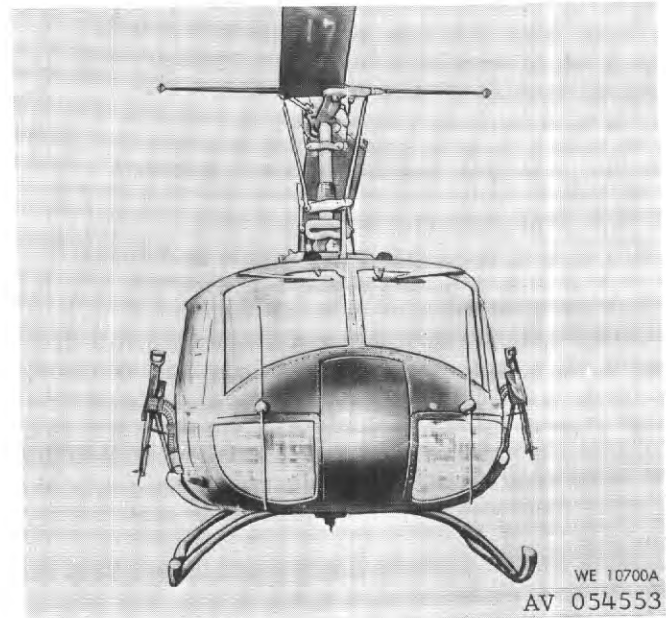
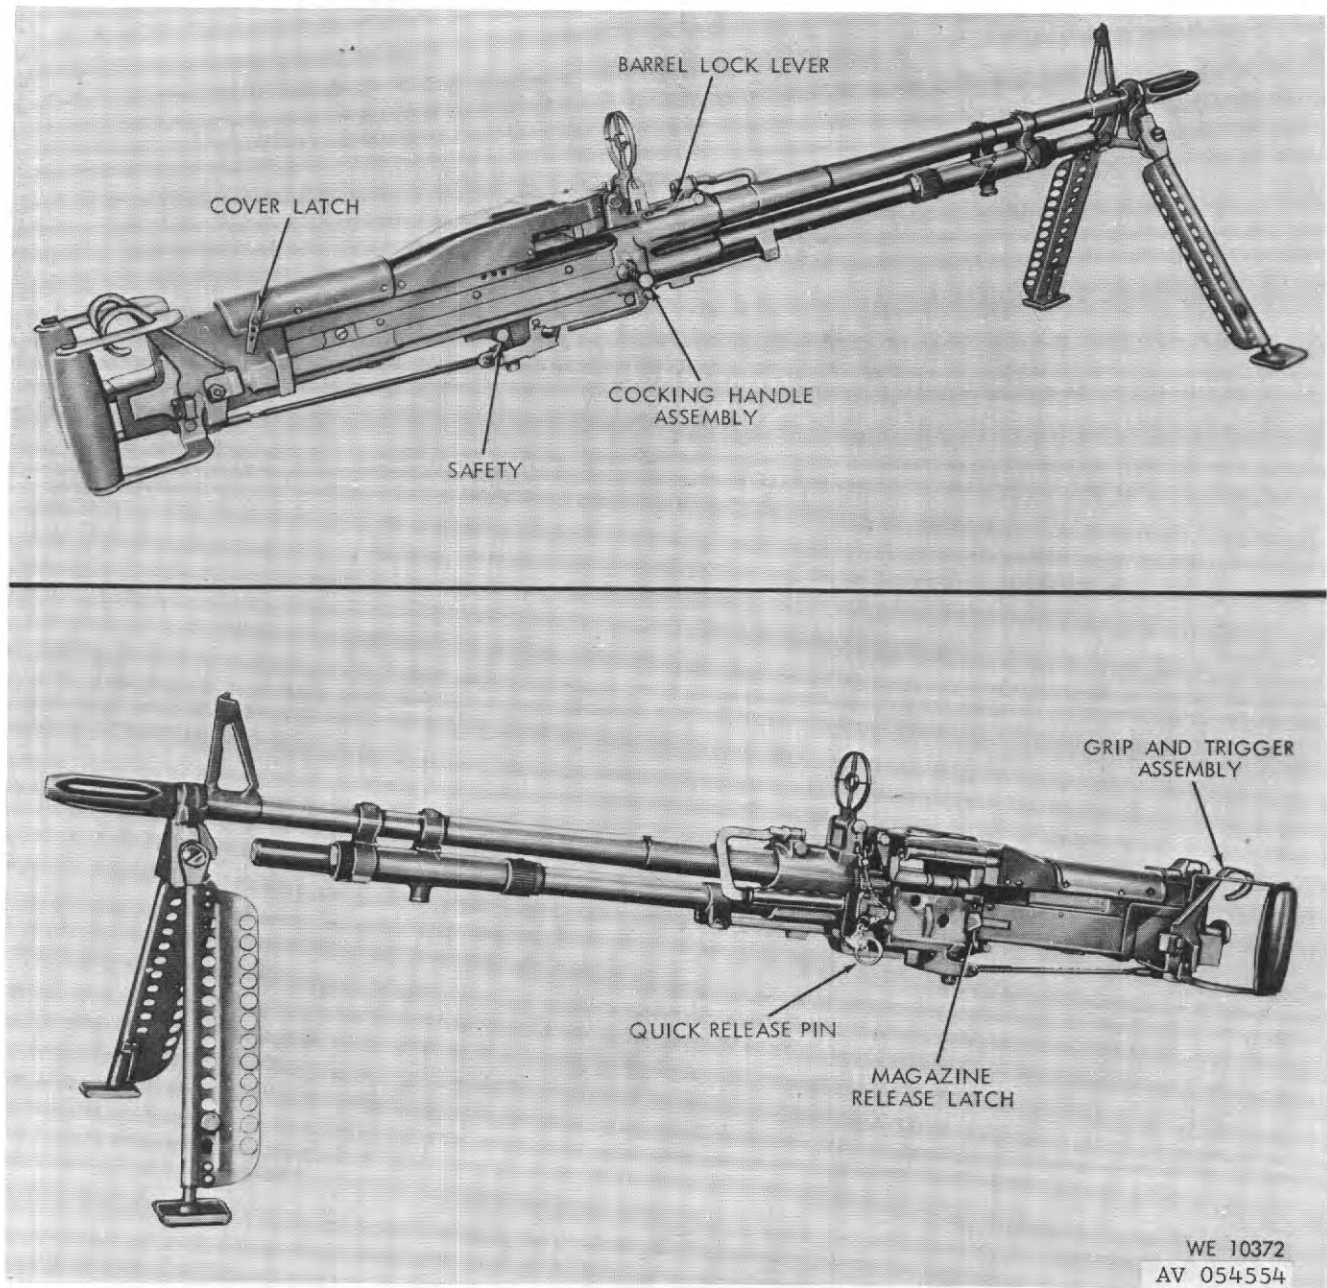
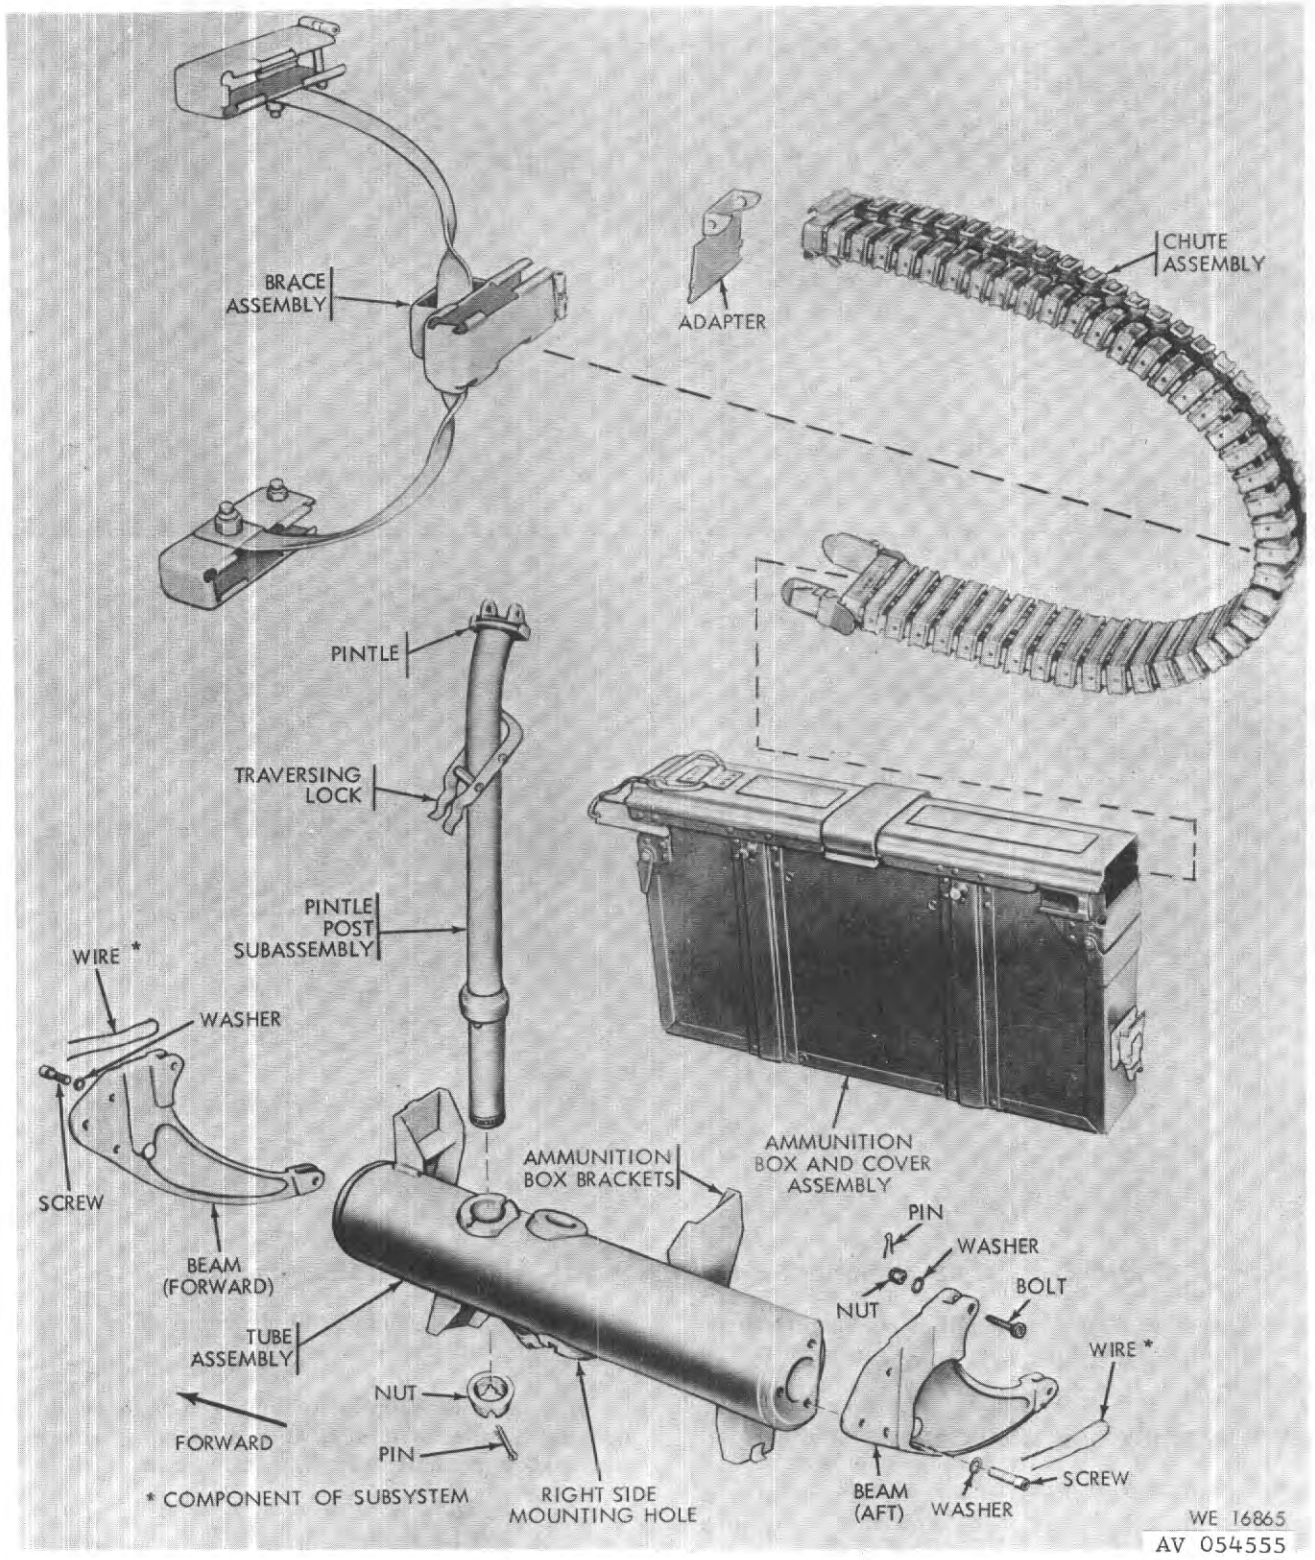
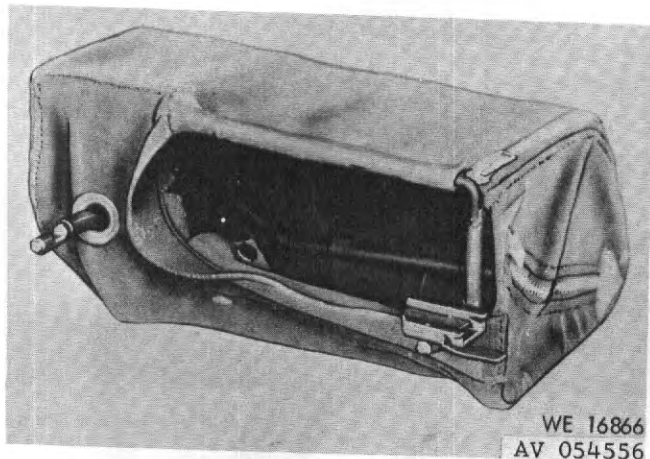

Figure 6-5. Armament subsystem M23 installed on helicopter
Figure 6-6. 7.62 millimeter machine gun M60D - right rear and left front views
Figure 6-7. Armament subsystem M23 mount assembly - exploded view
Figure 6-8. Ejection control bag
6-89. The armament subsystem M23 is attached to external stores hard point fittings on both sides of the helicopter (figure 6-5). The two flexible 7.62 millimeter machine guns M60D (figure 6-6) are free pointing but limited in traverse, elevation, and depression by cam surfaces and stops on pintles and pintle post assemblies of the two mount assemblies (figure 6-7) on which the M60D machine guns are mounted. An ejection control bag (figure 6-8) is latched to the right side of each M60D machine gun to hold the spent cartridges and links. Cartridges travel from ammunition box and cover assemblies (figure 6-7) to M60D machine gun through flexible chute and brace assemblies (figure 6-7).
a. 7.62 Millimeter Machine Gun M60D. Machine gun M60D is a link-belt fed, gas operated, air cooled, automatic weapon (figure 6-6).
a. Cover latch (figure 6-6). The cover latch is located at the right rear of the cover assembly. In a vertical position it secures cover assembly in closed position, turning to horizontal position unlocks cover assembly.
b. Barrel Lock Lever (figure 6-6). The barrel lock lever, located at right front of receiver, is se-
c. Cocking Handle Assembly (figure 6-6). The cocking handle assembly, at right front of receiver, is used for manually charging the weapon.
d. Safety (figure 6-6). The safety, located at lower front of receiver, consists of a cylindrical pin with a sear clearance cut which slides across receiver to block the sear and prevent accidental firing. Ends of pin are marked for pushing to "S" safe and "F" firing positions.
e. Grip and Trigger Assembly (figure 6-6). The grip and trigger assembly includes the spade grips and is located at rear of receiver. The U-shaped design permits firing of weapon by thumb pressure from either hand.
f. Magazine Release Latch (figure 6-6). The magazine release latch, located on left side of receiver, locks adapter of the ammunition chute when it is seated in magazine bracket.
h. Safety - Push safety button to safe position. Attempt to fire unloaded machine gun M60D (figure 6-6).